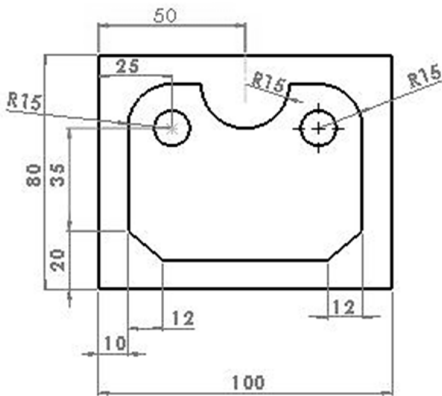

Figure Q4(c)
- a) With the aid of sketches, describe two (2) motion control systems used in numerical control (NC) systems (4 marks)
- c) Figure Q4(c) is an illustration of a billet that is to be milled on a three axis CNC machine. Using the program table format provided in Table 1, write a program that can be used to effectively mill the profile. (13.5 marks)